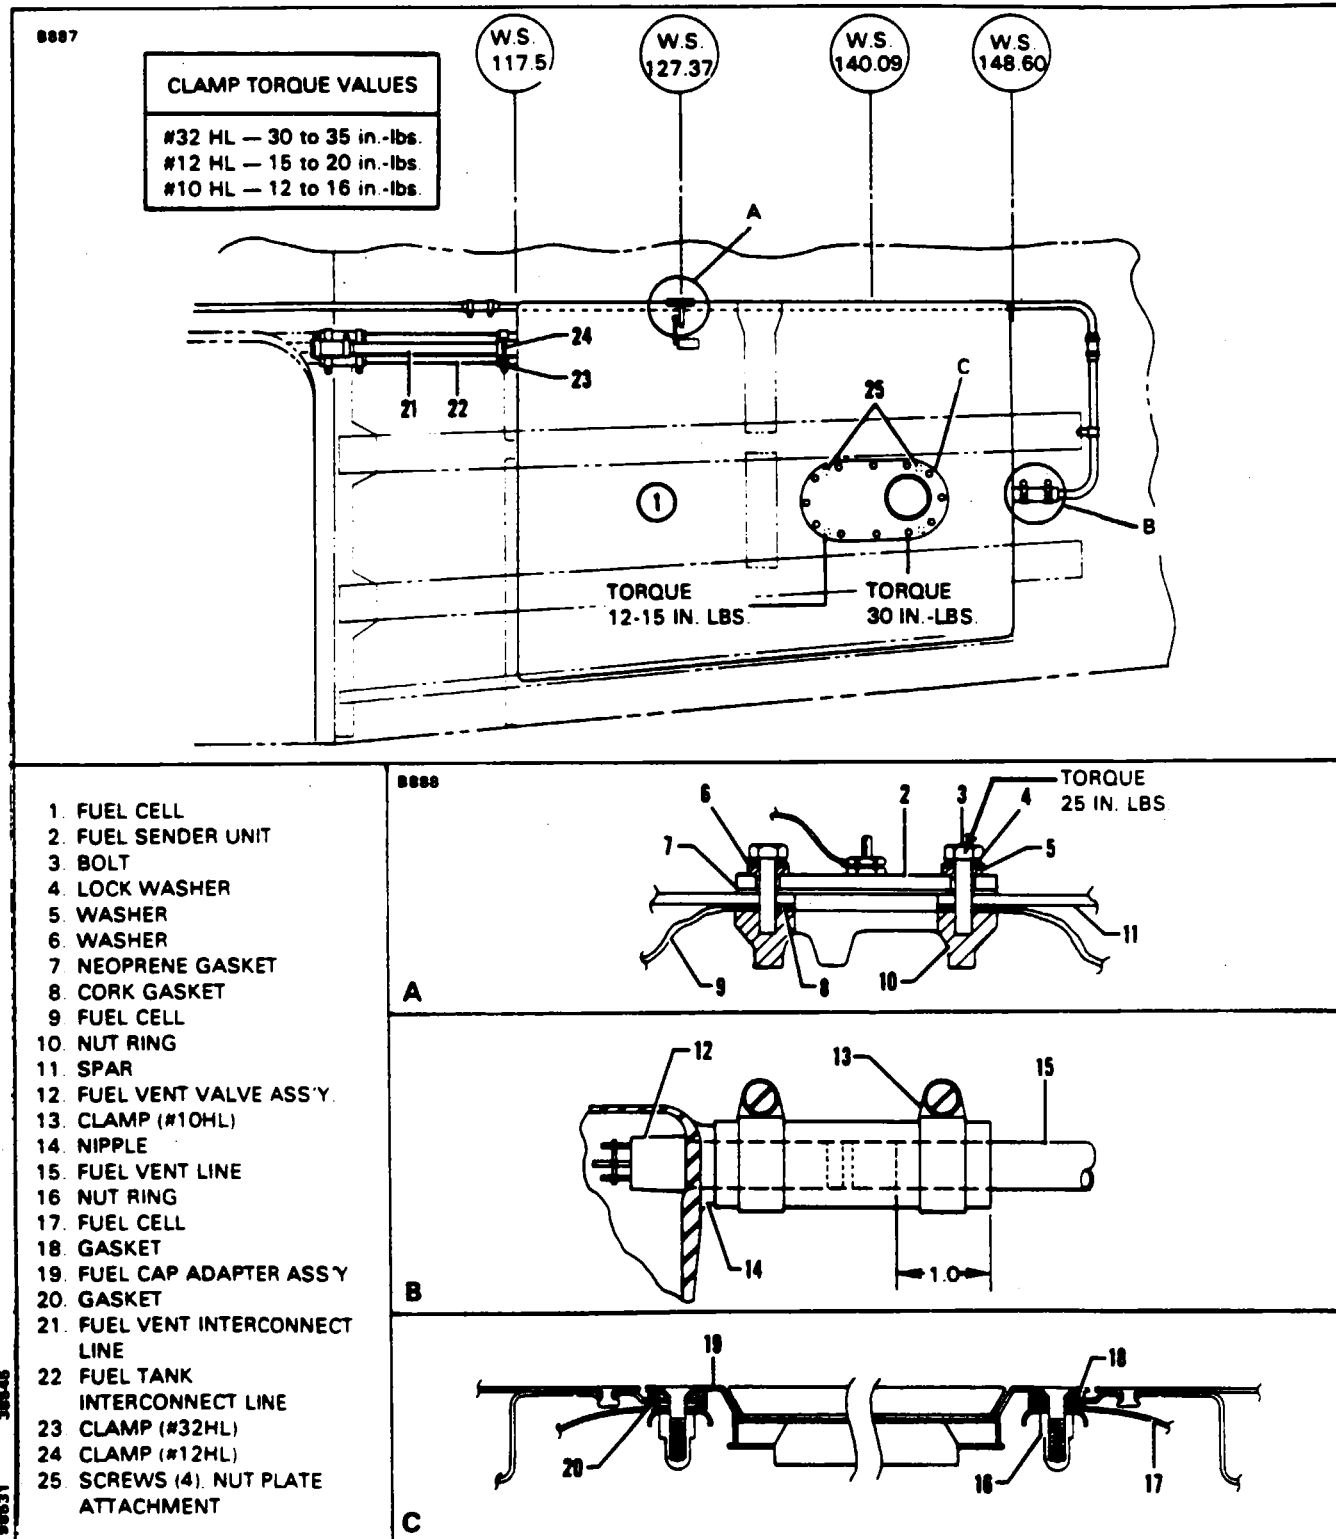

Figure 28-3. Fuel Cell Installation
2. Using access hole located on underside of wing, slide hose on interconnecting fuel line and fuel vent line into position. Insert blade of screwdriver through hole in rear outboard corner of fuel tank skin and tighten clamps to torque specified in Figure 28-3.
REMOVAL OF OUTBOARD FUEL CELL. (Refer to Figure 28-3.)
INSTALLATION OF OUTBOARD FUEL CELL. (Refer to Figure 28-3.)
6. Using the appropriate access opening in the bottom of the wing, install the fuel sender unit as shown in Figure 28-3, View "A."